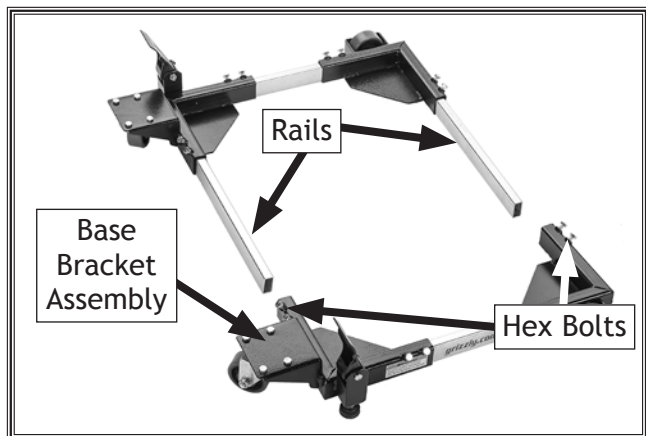

Figure 3. Model D4666 frame separated.
1. Loosen (4) hex bolts to separate D4666 Mobile Base bracket assembly from side rails (see Figure 3).